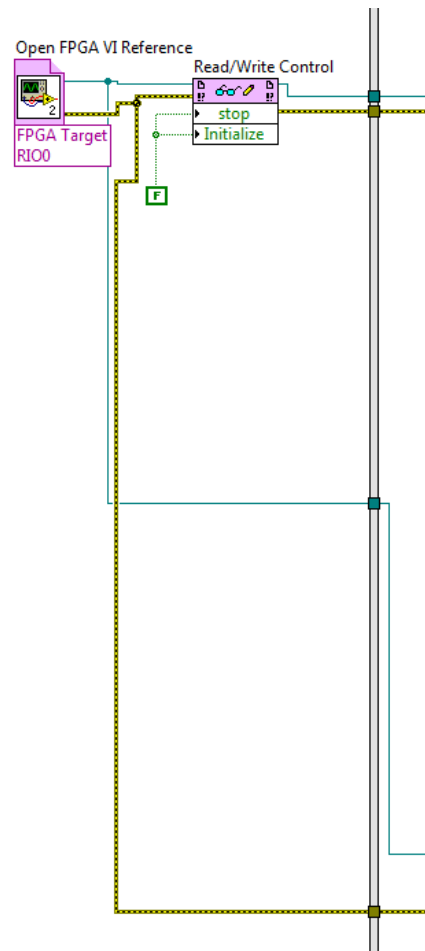

Fig. 18. The first cell of flat sequence in CPU VI.
- 6) We will add some blocks to CPU VI constructed in Part 1 in order to implement signal processing tasks on the sampled signal. First, generate **additional wires from the output terminals of Open FPGA VI Reference** as shown in Fig. 18. We will use the same FPGA reference for **reading the samples through FIFO_input**.